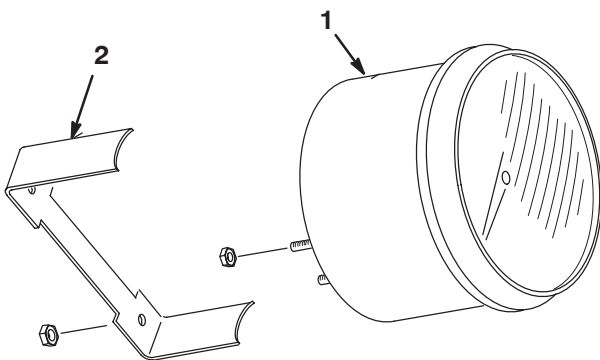

Figure 5
4. Remove the 2 hex nuts that secure the tachometer clamp to the tachometer (Fig. 5).